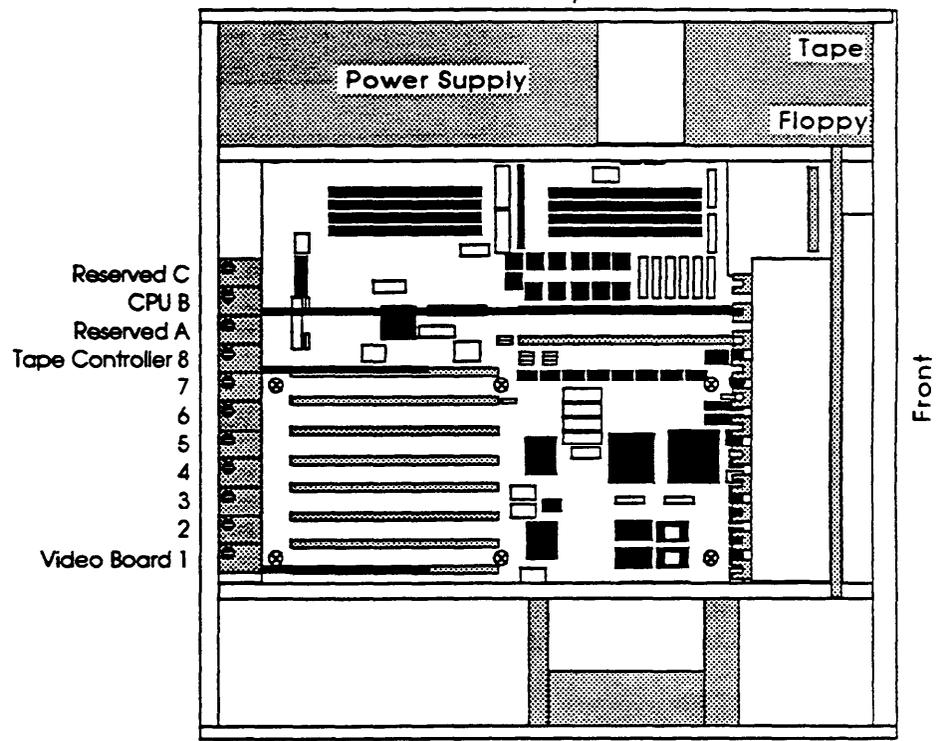

Figure 3-18. Location of Expansion Board Slots
5. Select the slot to be used for installing the expansion board. The slots are numbered from the bottom of the system unit toward the top as shown in Figure 3-18. IVP boards should be installed from the lowest available slot upwards. Fax boards should be installed from the highest available slot downwards.